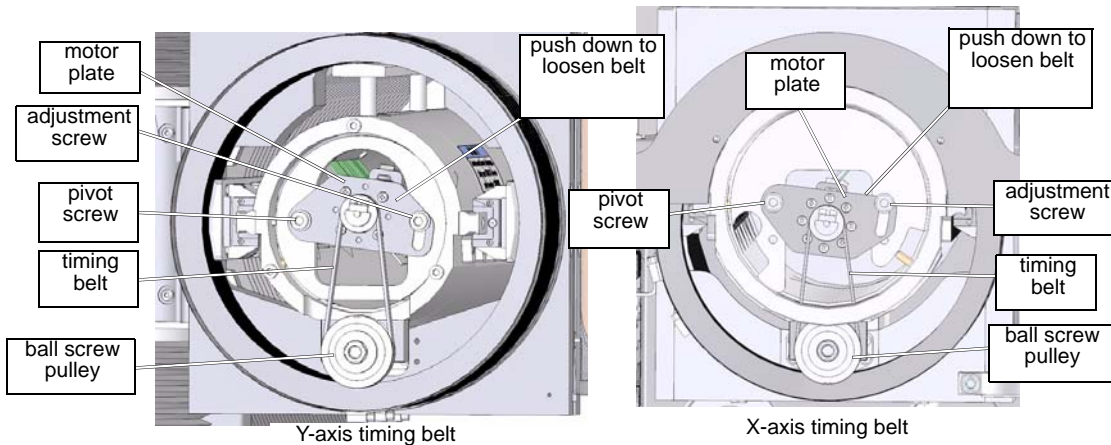

Figure 6-7: Components Involved in Adjusting the Timing Belt Tension
- a. Loosen the motor plate's pivot screw. Refer to Figure 6-7.